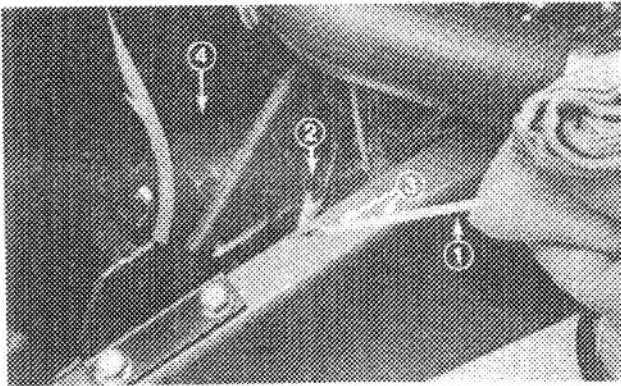
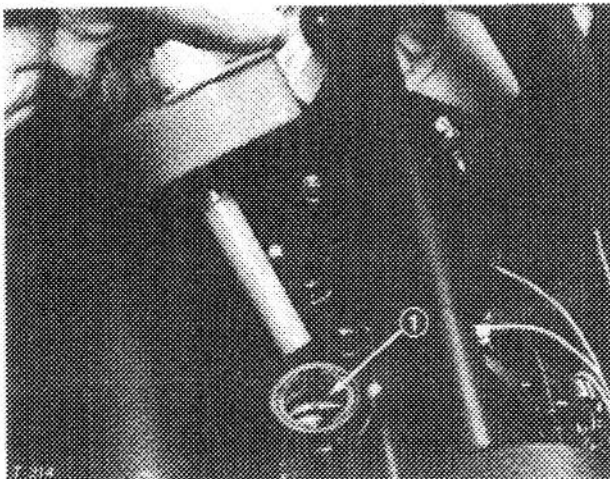

Figure 20
Figure 21
3. Remove dipstick and wipe it with a clean rag (Fig. 20). Push dipstick down into the tube and ensure it is fully seated. Pull dipstick out of the tube and check level of oil. If oil level is low, remove filler cap (Fig. 21) and add enough oil to raise level to top notch on dipstick (Fig. 20). DO NOT OVERFILL.
2. Unscrew dipstick cap (Fig. 20) from the filler neck and wipe it with a clean rag. Screw dipstick cap fingertight onto filler neck. Unscrew the dipstick and check level of oil. If level is not within 1/2 inch (13 mm) from the groove in the dipstick (Fig. 20), add enough oil to raise level to groove mark. DO NOT OVERFILL by more than 1/2 inch (13 mm) above groove.